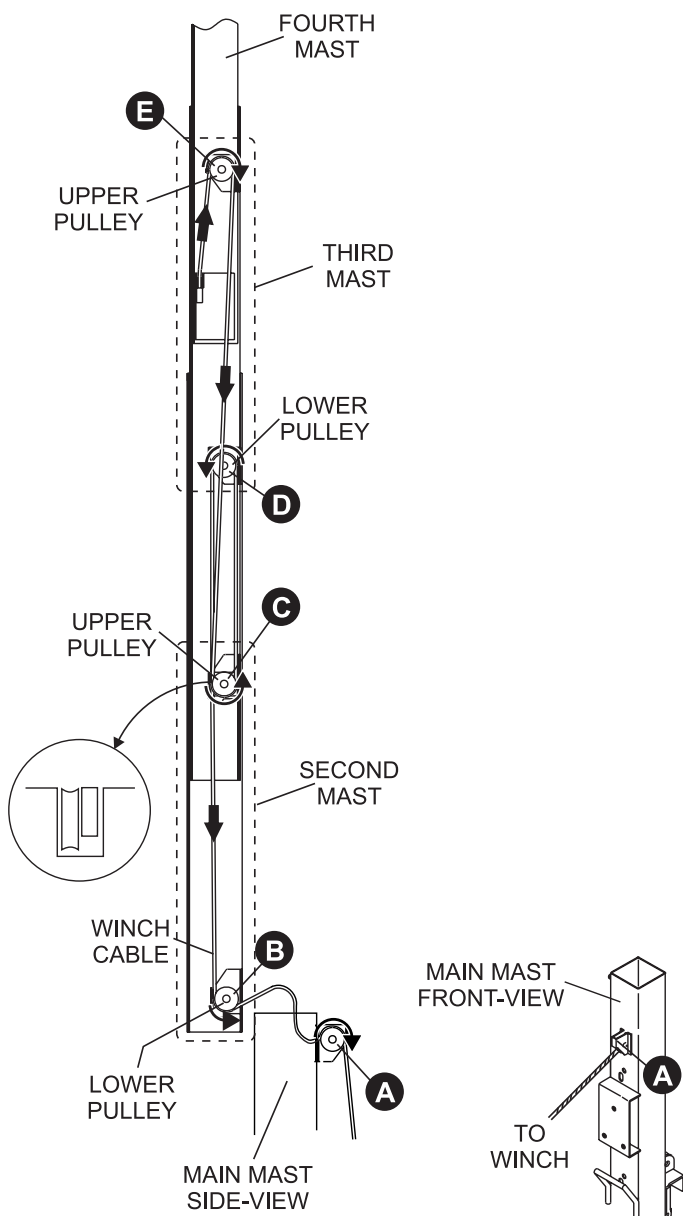

Figure 37. Attaching the Winch Cable
1. Route (pass) a new winch cable through the main mast pulley **A** (Figure 37).